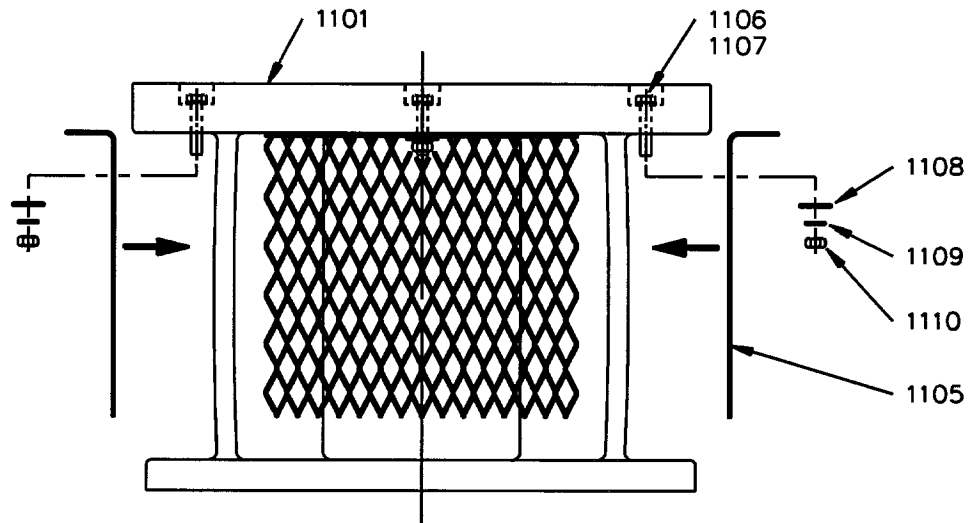

Figure 8: Handhole Cover Installation
3. Install handhole cover bolts and lockwashers [1106, 1107] into the pedestal [1101]. Refer to *Figure 8, page 16*. Assemble pedestal to mounting flange [1251] using bolts and lockwashers [1116, 1117]. Torque bolts to value shown in *Table 6, page 19*. Install gear drive support pedestal/mounting flange assembly to vessel nozzle; gasket and fastener set furnished by customer (on stud mounted units, studs [1258] are supplied).